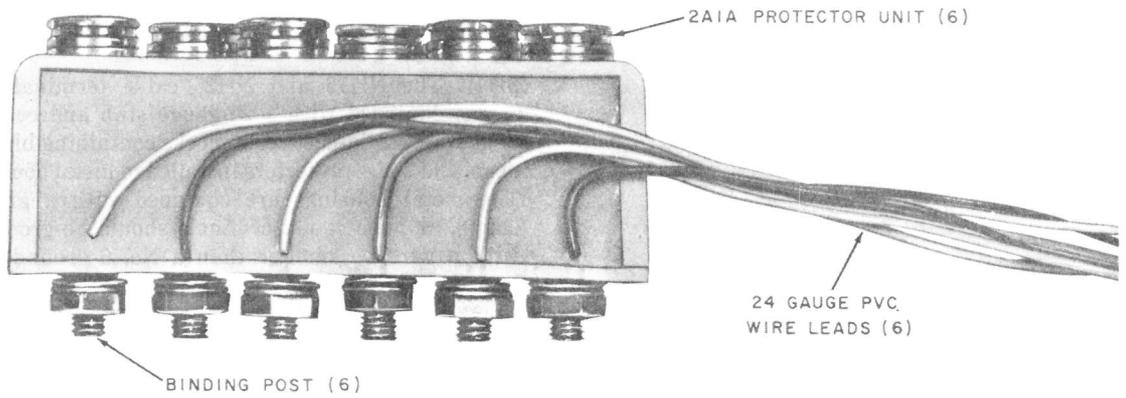

Fig. 6—6A3A Terminal Block
**3.06** The 6A3A terminal block (Fig. 6) can be used in lieu of fuseless station protectors